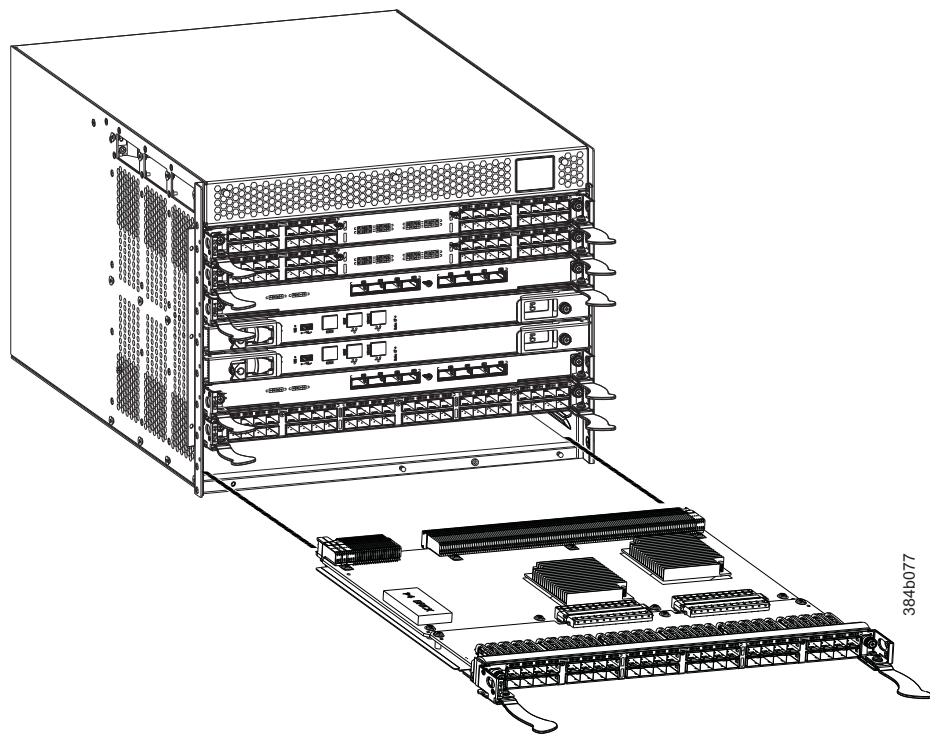

Figure 36. Port, application, and encryption blade removal and installation (FC16-48 port blade shown)
10. Open the ejectors by pulling them toward the center of the blade face. Pull the blade out of the chassis using the ejectors (see Figure 36).